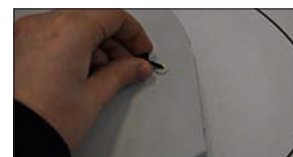

Fig. 33
3. Remove the thumbscrew from the new cartridge and retain thumbscrew to use when storing the used cartridge that has material inside. This will prevent the material from unraveling when stored. (Fig. 33)